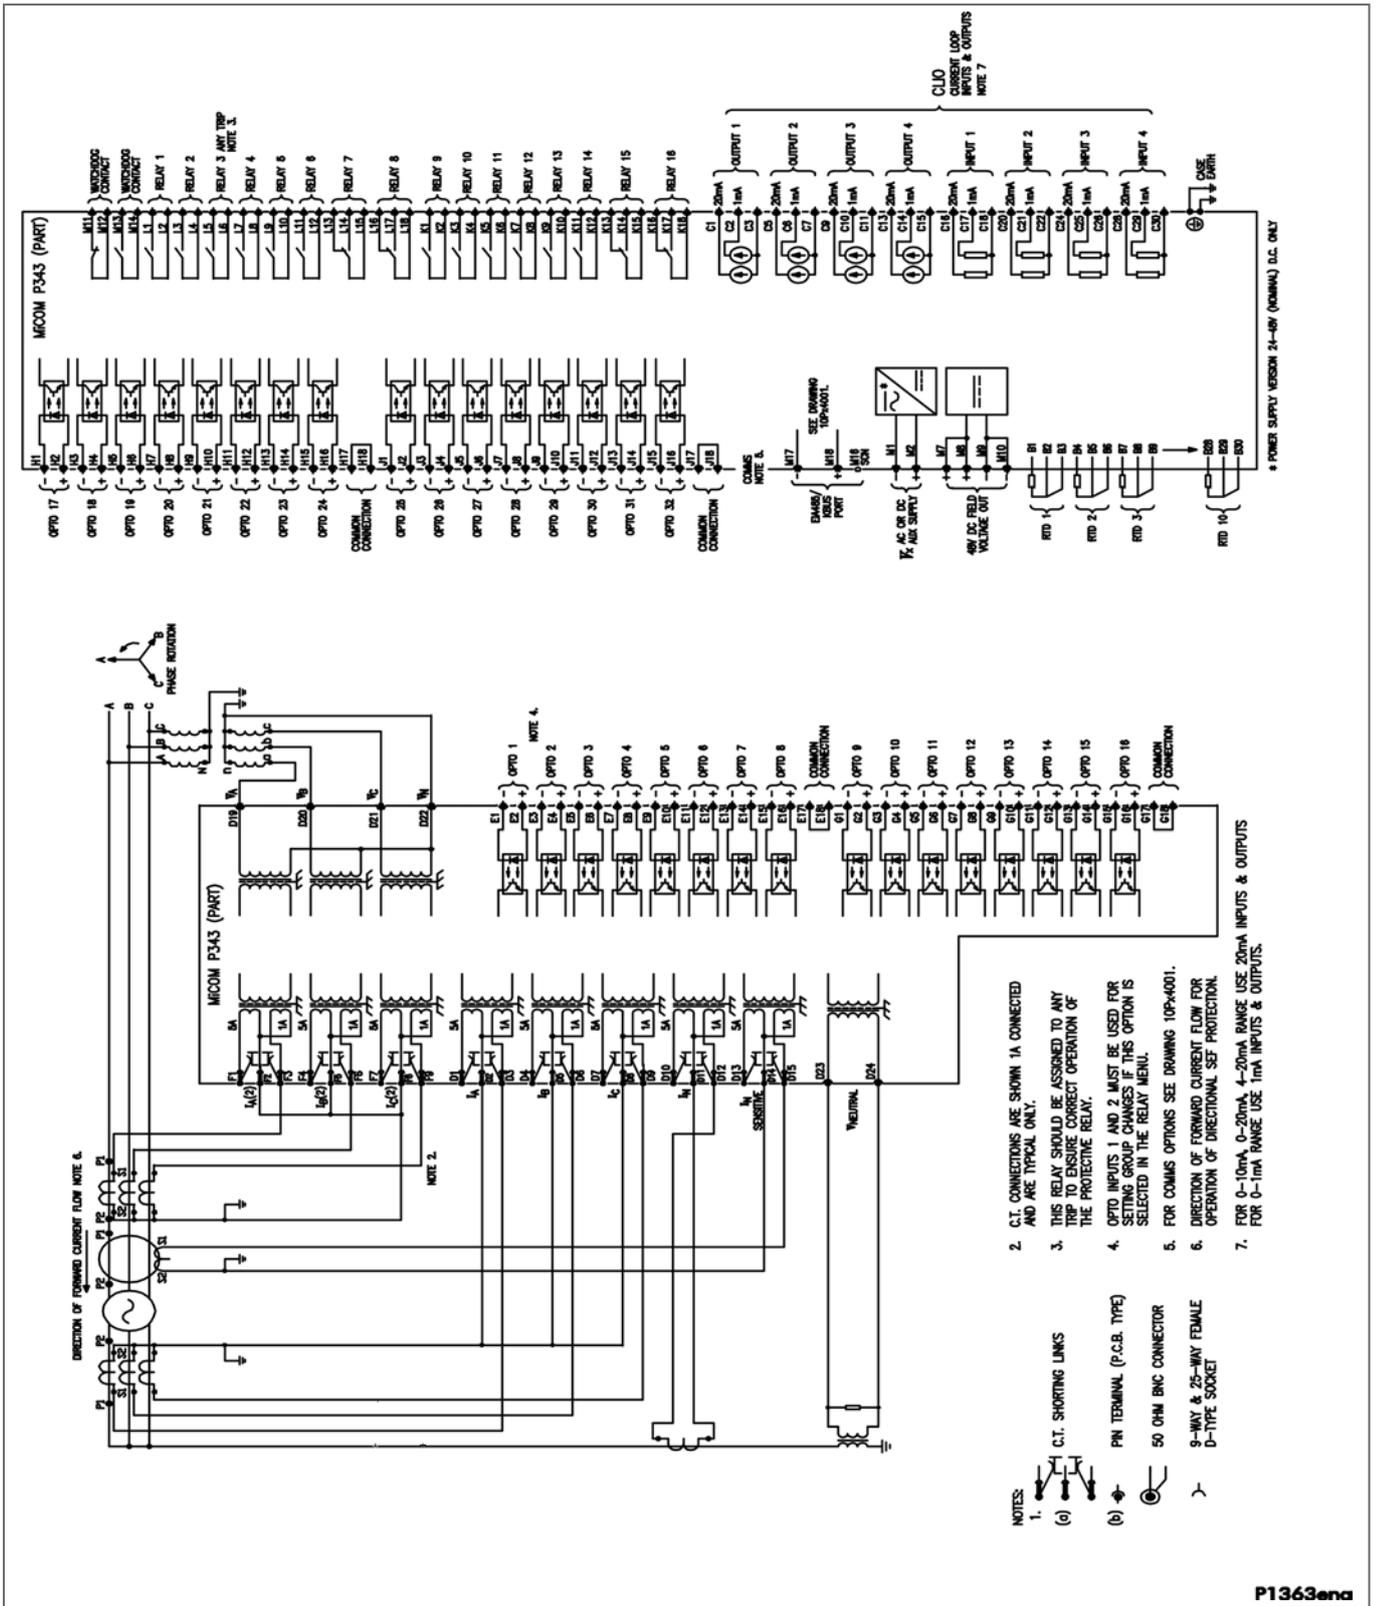

Figure 68 - P343 (80TE) with biased differential (32 I/P & 16 O/P & RTD & CLIO)
- Figure 68 - P343 (80TE) with biased differential (32 I/P & 16 O/P & RTD & CLIO)